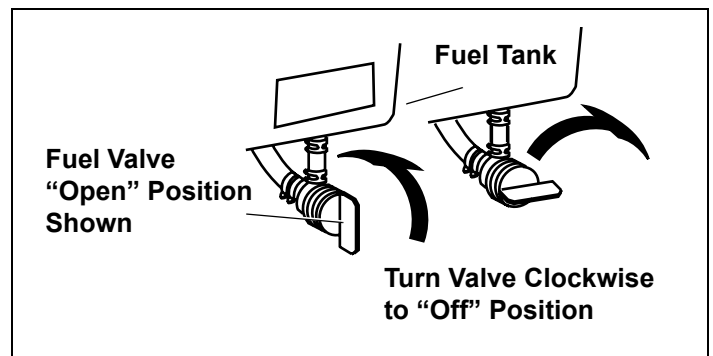

Figure 18. Fuel Valve Positions
4. Close fuel valve, if present. See Figure 18.